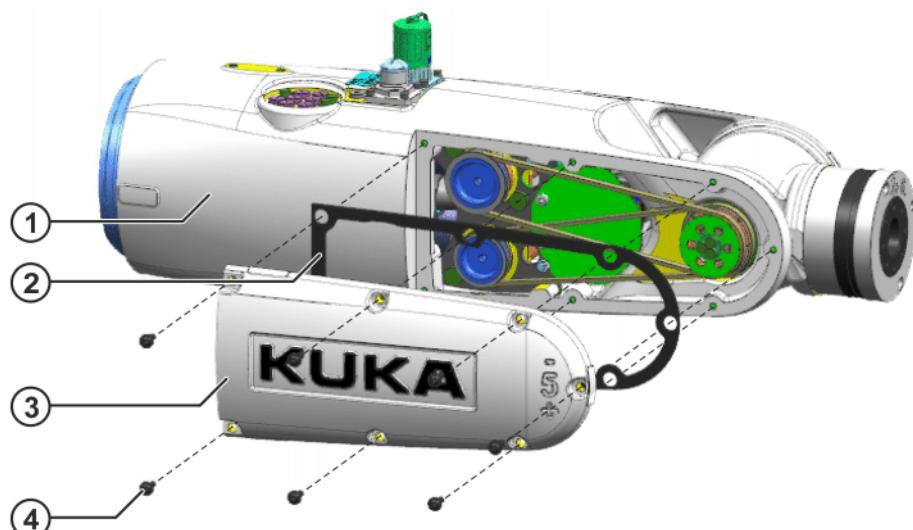

Fig. 10-1: Removing the cover from the in-line wrist – example
1. Remove 7 M3x10-10.9 fillister head screws from the cover and take off the cover together with the seal (>>> Fig. 10-1).